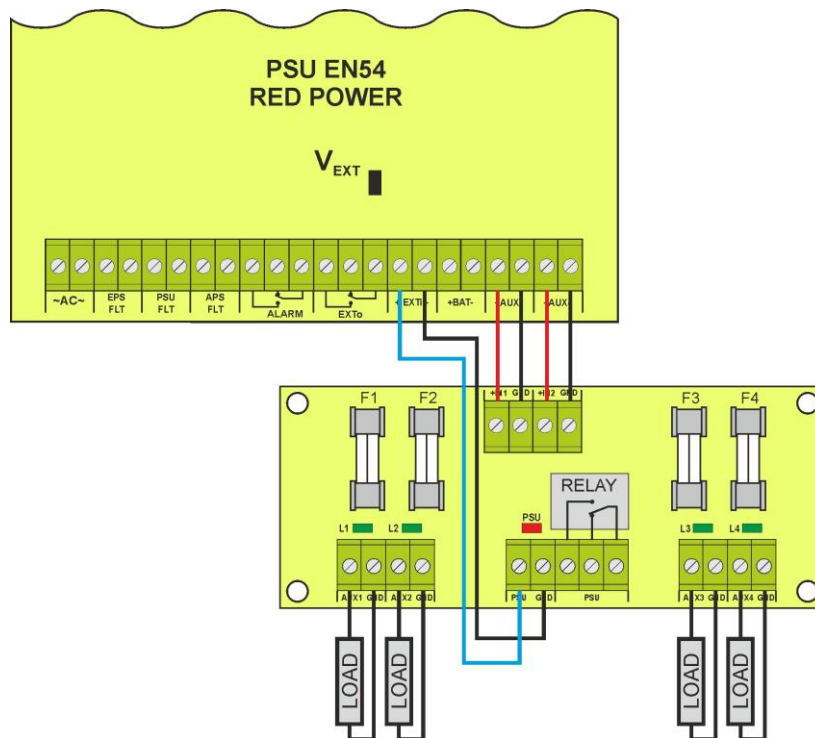

Fig.14. The connection of fuse module.
- switching PSU relay output into voltage free status (contacts as shown in the Fig.14).